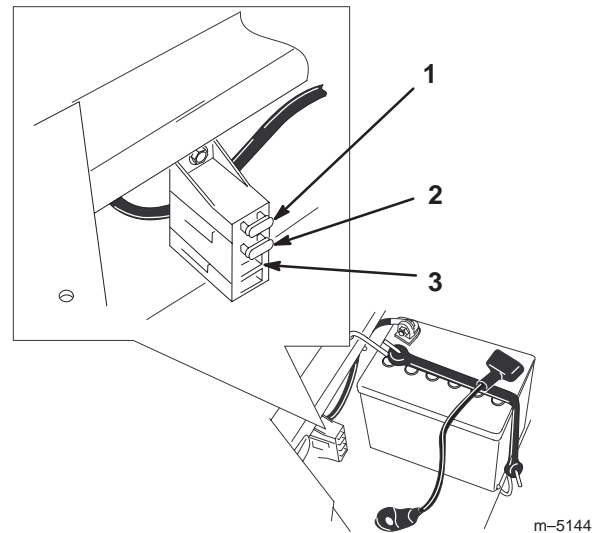

Figure 43
1. Raise the seat to gain access to the fuse holder (Fig. 43).
2. To replace a fuse, pull out on the fuse to remove it (Fig. 43).